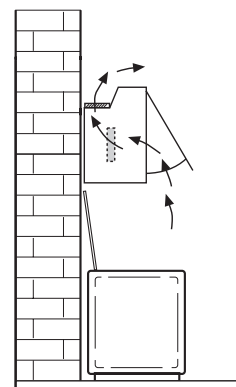

Fig. 2
- The air is filtered through a charcoal filter and returned to the kitchen. Fig. 2